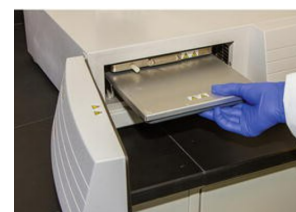

Figure 42: Incubate overnight at 37°C
11. Close hybridization chamber, insert tray into oven, and clamp tray into place. **Incubate at 37°C overnight** (16 - 18 hours) (Figure 42).